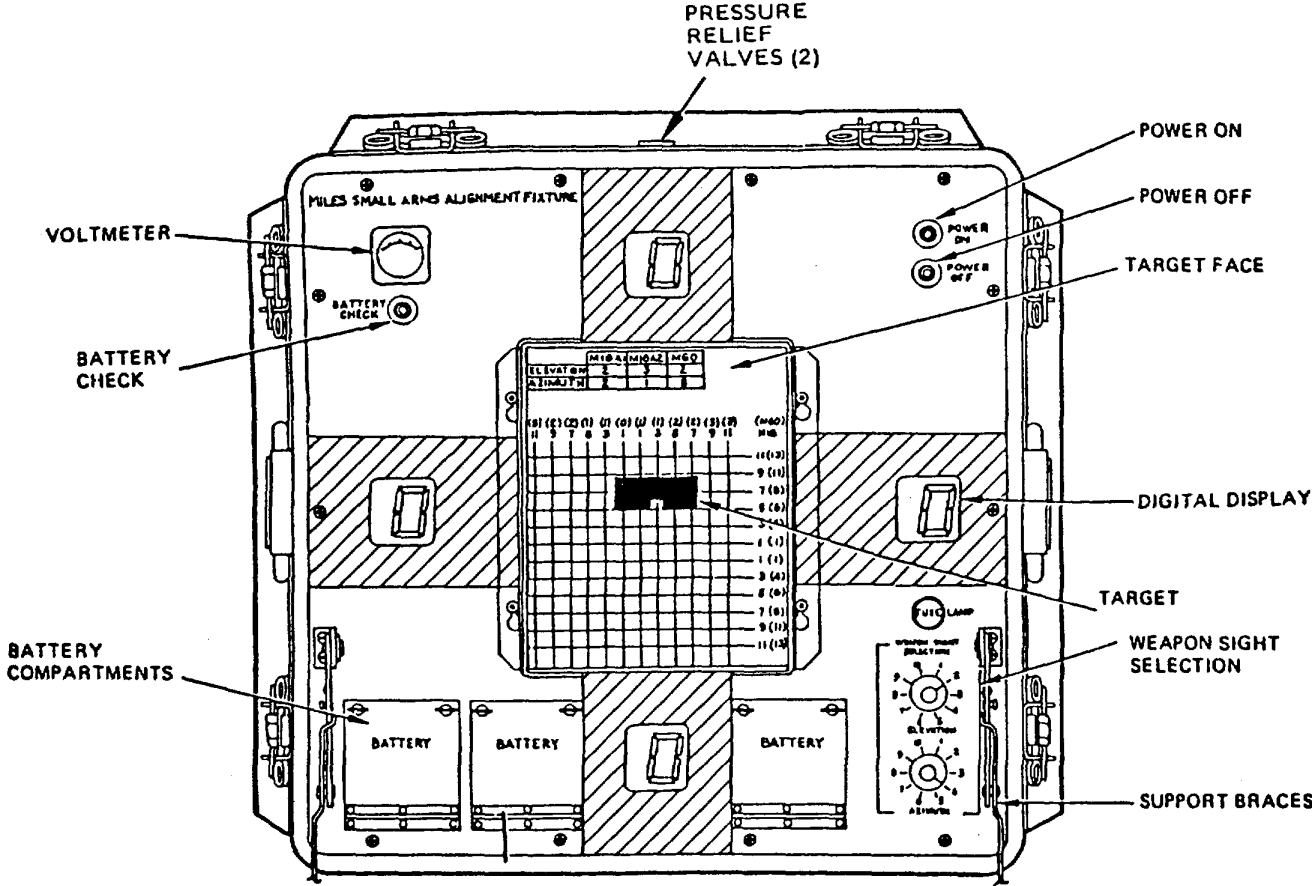

FIGURE 4-2. Small Arms Alignment Fixture Assembly (P/N 9353020)
Figure 4-2 illustrates SAAF P/N 9353020. SAAF P/N 9353020 consists of the following additional controls and indicators.
- 7b. If using SAAF P/N 9353020 (refer to Figure 4-2):